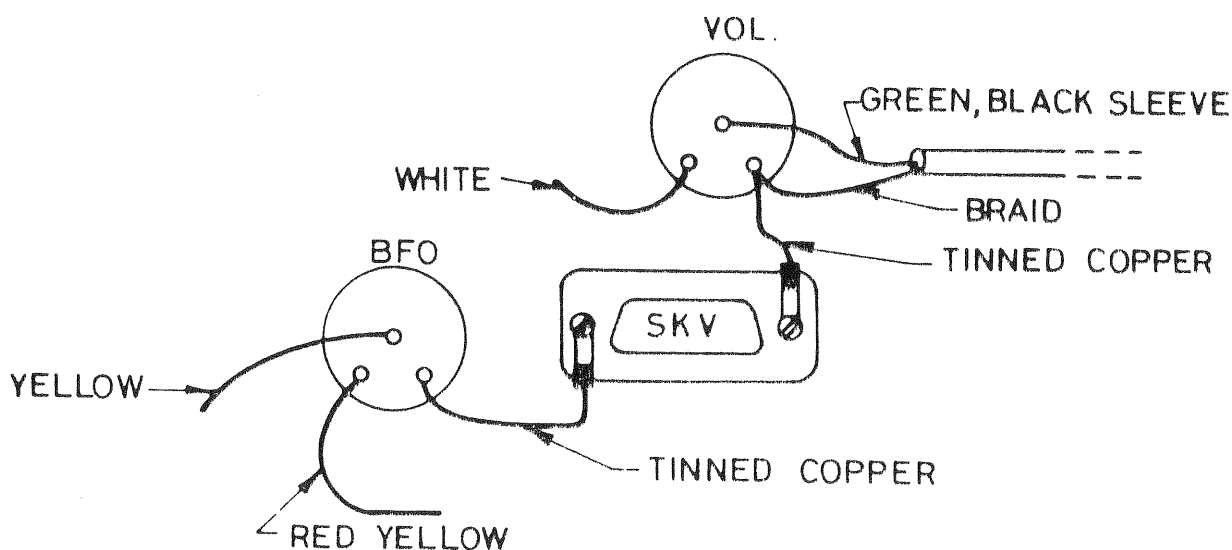

FIG 14 — WIRING OF VOLUME AND BFO CONTROLS
- When replacing, renew the sealing compound, and re-connect wire as shown in Fig 14.
92. Follow the procedure detailed in paragraph 89. The BFO control wiring is shown in Fig 14.